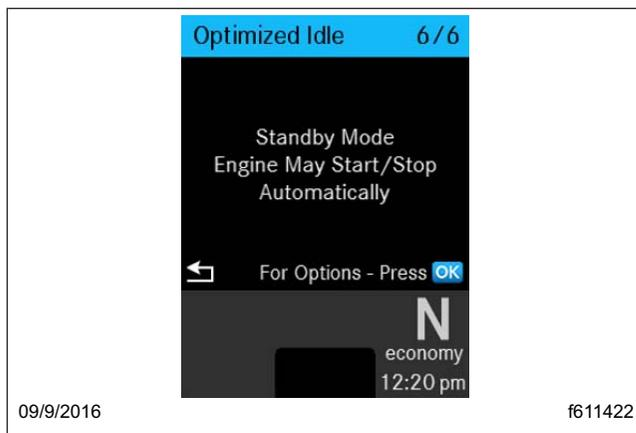

Fig. 13.4, Optimized Idle State Screen
7. Select OK to enable Optimized Idle, and, if desired, turn on the interior comfort mode (sleeper cabs only). The current Optimized Idle state is displayed. See Fig. 13.4.